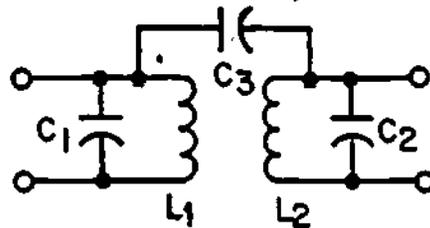

Figure 10
10. We have been talking about tuned transformer coupling, which is very good for many applications. However, the transformer's efficiency is considerably reduced when we try to couple signals at the higher RF frequencies. To get around this problem, we can use a coupling circuit like the one shown in Figure 10.
In Figure 10, coupling is done by component \_\_\_\_\_.